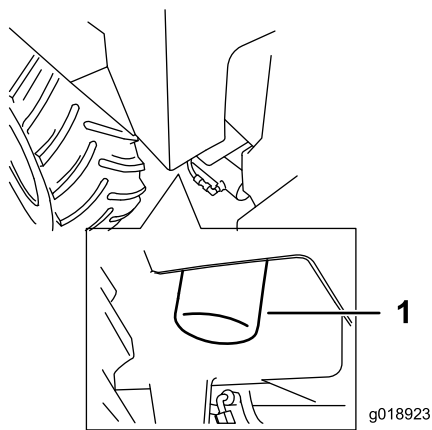

Figure 40
4. Turn the hydraulic-oil filter counterclockwise, remove and discard the filter (Figure 40).